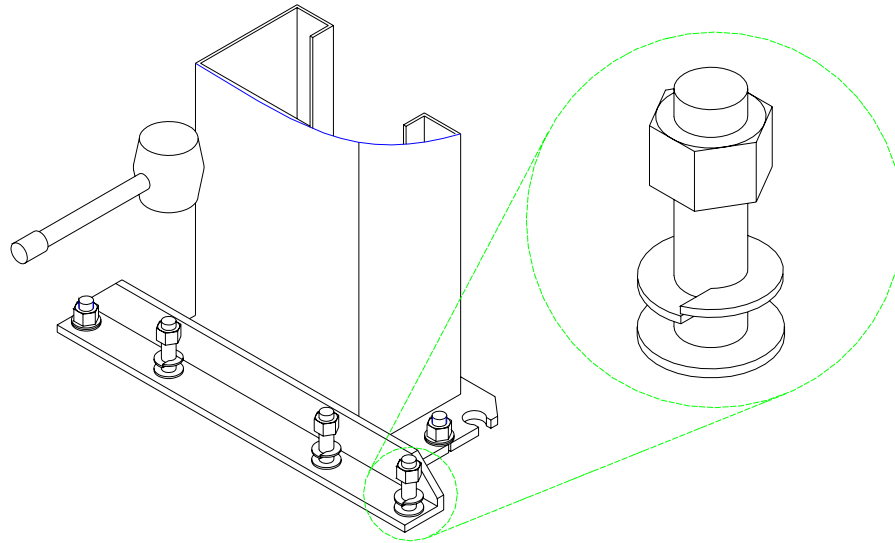

Figure 8
- E. Assemble the washers and nuts onto the anchor bolts. Thread the nuts onto the anchor bolts where the tops of the nuts are just above the top of the bolts, figure 8. Using a hammer, carefully tap the anchor bolts into the concrete until the washer rests against the baseplate. **Do not damage the nuts or threads.**